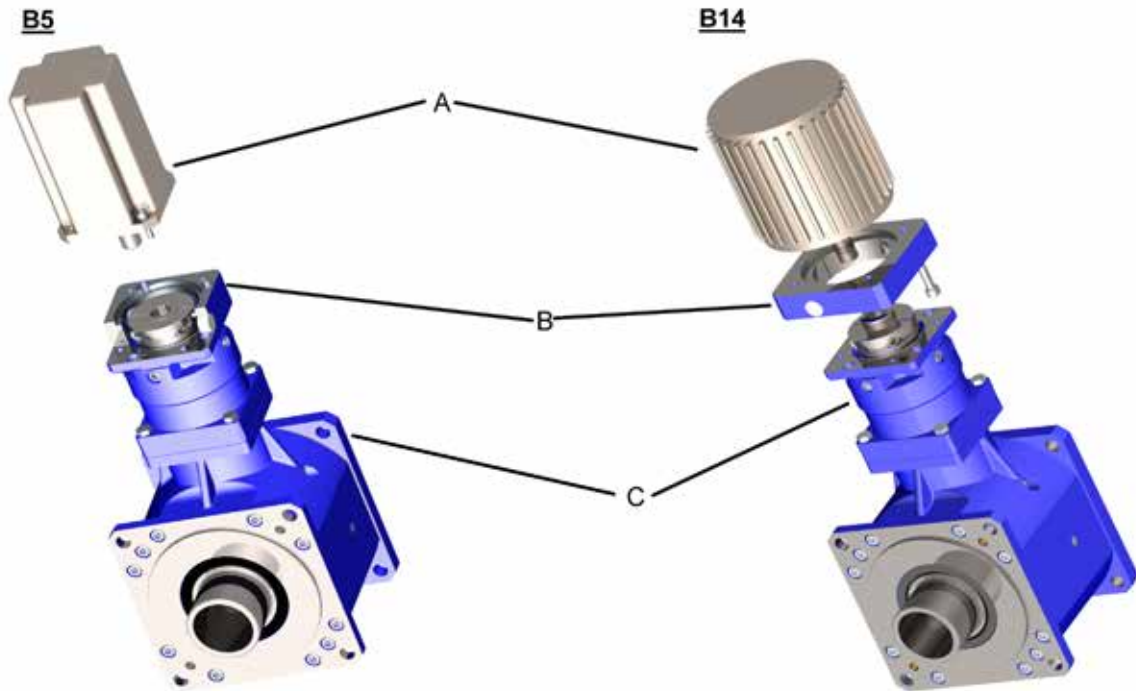

Fig. 6.3
When assembling motors of design B5 (see also Fig. 6.3), ignore the steps described in chapter 6.2.3
- Ü Position the motor so that the plane surfaces fit together. (Fig. 6.3)